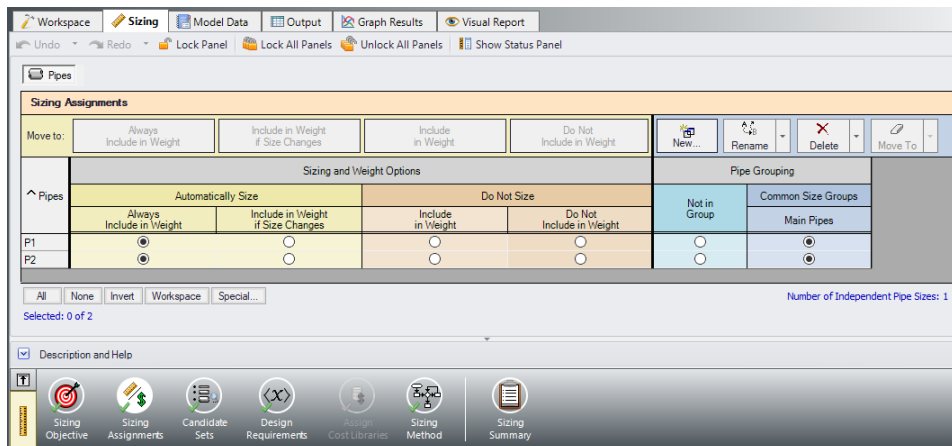

Figure 2: Pipes P1 and P2 settings in the Sizing Assignments window
3. **Add both pipes** to this group by clicking the corresponding radio buttons (Figure 2).